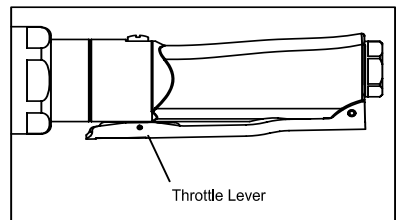

Figure 5
6. Depress the throttle lever varying the speed from very low to half speed, for thirty seconds. (See Fig. 5)